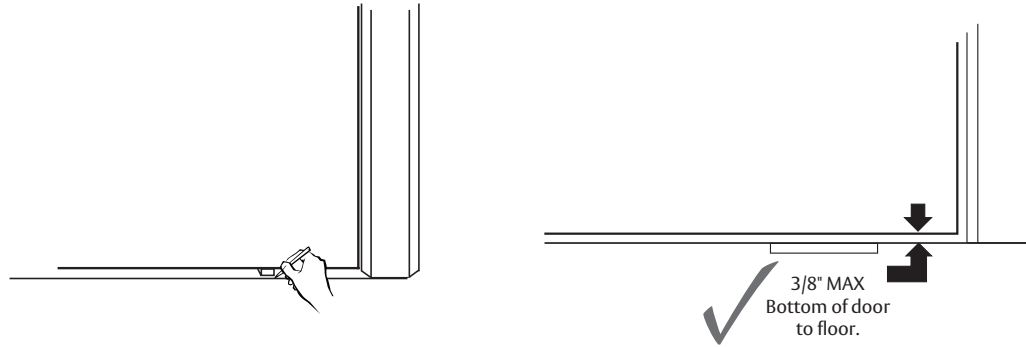

Figure 7
3. Mark location of bottom strike pocket and hole locations. (Figure 7)